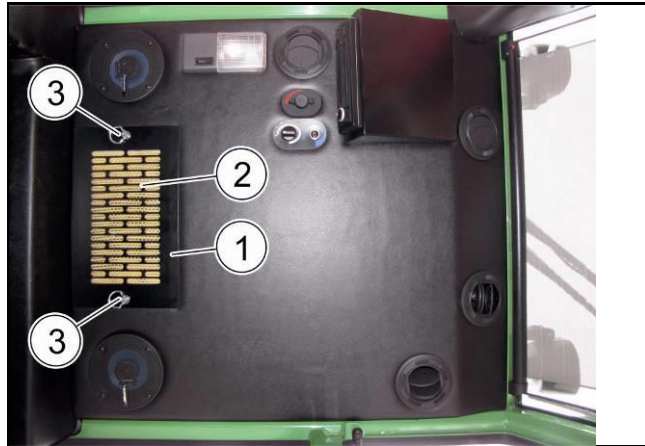

Fig. 249
4. Reinsert the filter element (1) into the cabin ceiling.
5. Turn the locks (Fig. 249/3) anticlockwise by 90° to fix the filter element in the cabin ceiling.